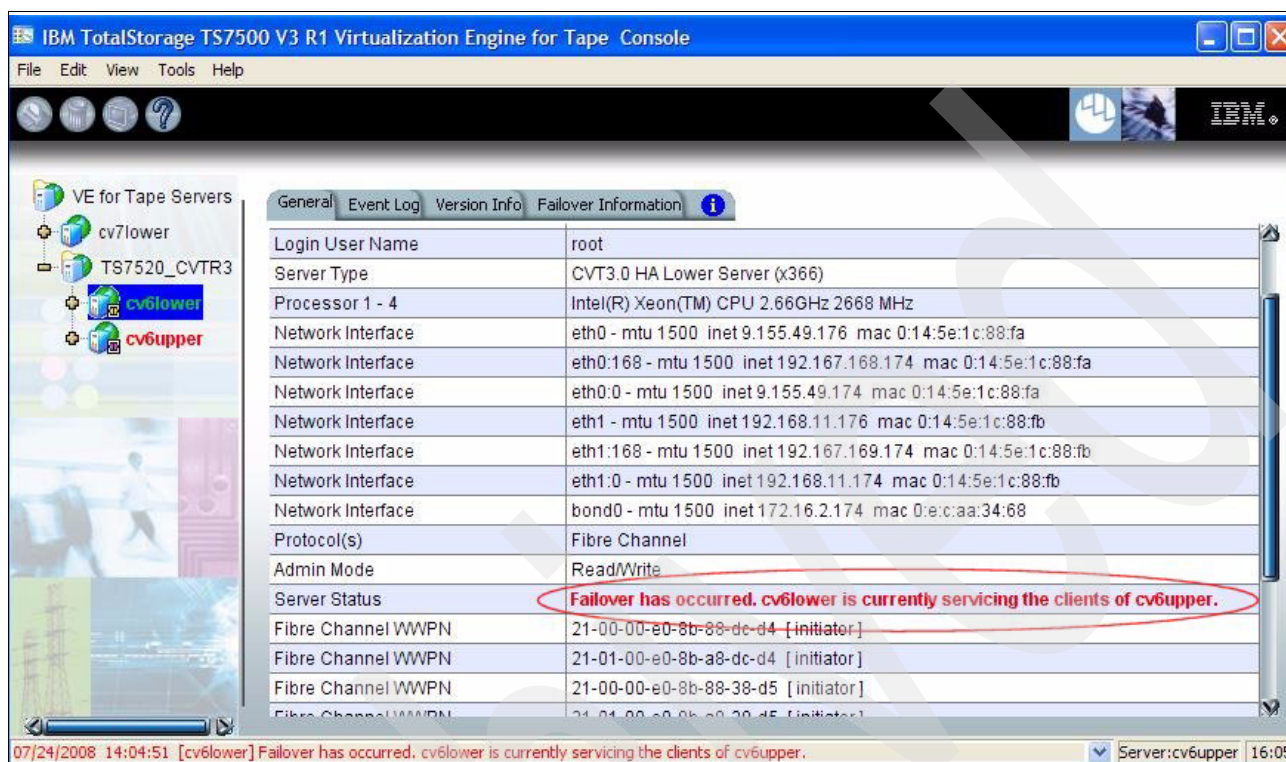

Figure 12-21 Example of failover/takeover
- You will see the window in Figure 12-21 once the takeover/failover has occurred. This process can take some time to complete, so be patient. Notice the alert at the bottom notifying you about which node is now servicing the I/O.